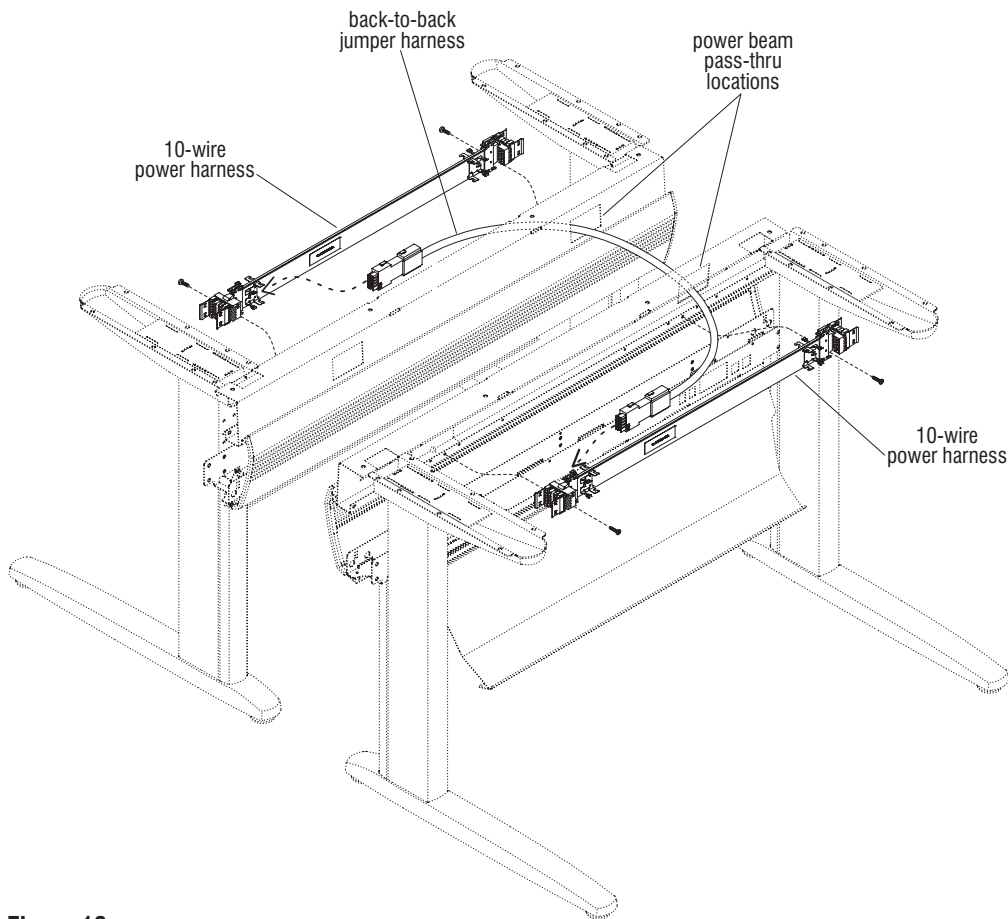

Figure 10
1. Table units to be joined back-to-back electrically must be equipped with 10-wire power harnesses. Position tables back-to-back as illustrated (Figure 10).
3. Remove 10-wire power harnesses from each table unit temporarily, so back-to-back jumper may be installed. As illustrated, route either end of the back-to-back jumper through the power pass through locations at the back of each power beam. Feed the jumper along the length of the beam and snap it into the 10-wire power harness. Secure connector ends to each 10-wire power harness by inserting until spring clips lock connector into place at each power harness location (Figure 10).